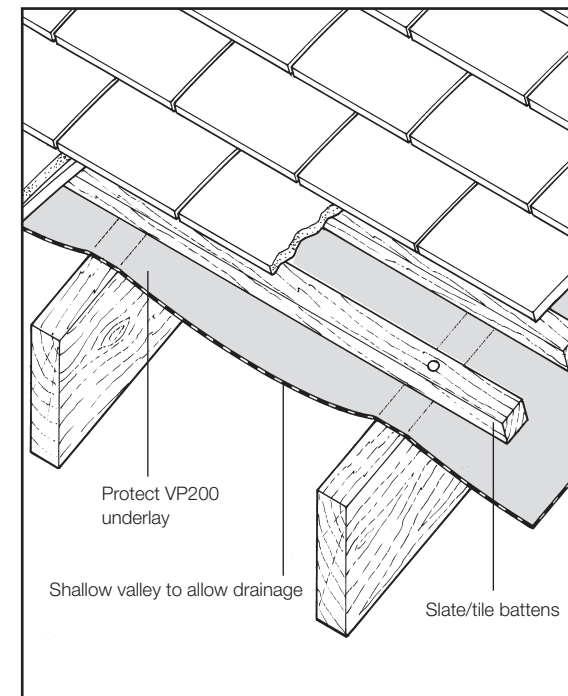
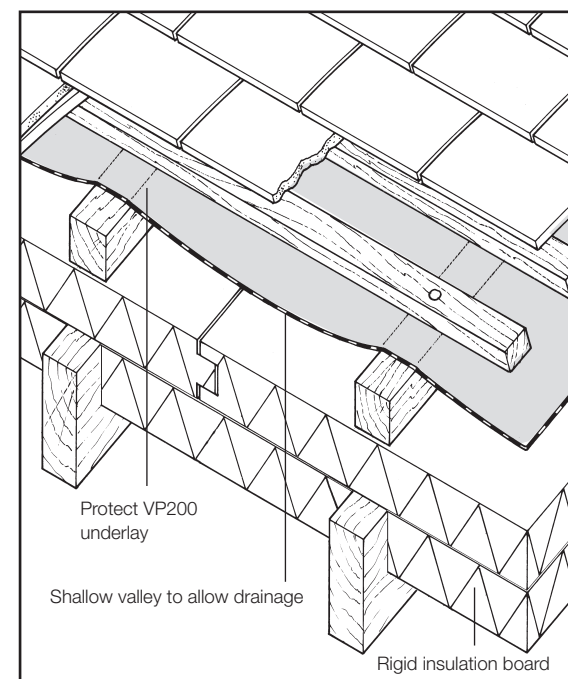
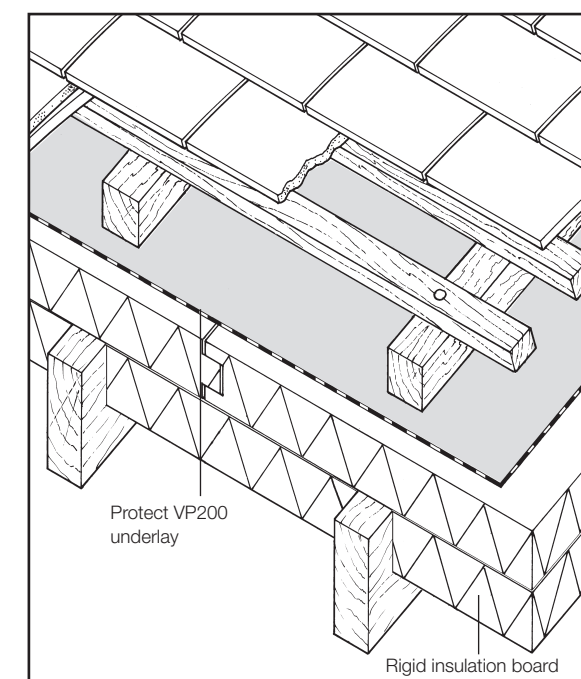

Fig 1
Fig 3
Fig 4
- Protect VP200, a vapour permeable underlay, may be used for cold roofs with ventilated or unventilated loft spaces (see Figs 1 and 2) or warm roofs with insulation between and/or above rafters (see Figs 3 and 4).
If the ceiling is well sealed, as defined in BS 5250, condensation can be controlled by the use of Protect VP200 with no additional ventilation. Protect VP200 can be laid draped unsupported (see Fig 3) or fully supported on insulation (see Fig 4). To ensure the integrity of a well sealed ceiling, a separate vapour control layer such as Protect VC Foil Ultra must also be used on the warm side of the insulation.